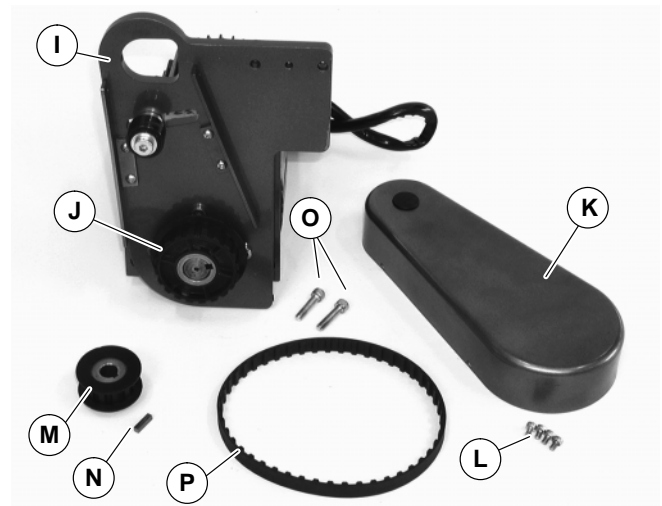

Figure 3
## 1. Typical components (Figure 3)
**NOTE:** Flat belt mounting package shown above (Figure 3), cleated belt mounting package similar.